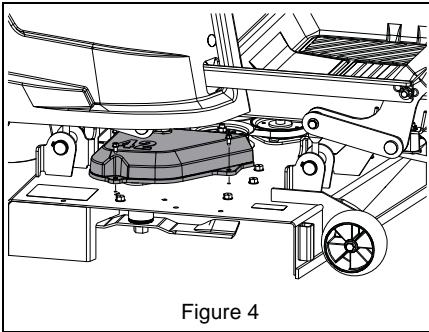

Figure 4
2. Remove three 1/4" tapping screws retaining belt cover and remove belt cover. Retain for operation without bagger attached. See Figure 4.
8. Install right belt cover on mower deck. It is not necessary to remove sheave adapter. See Figure 4.